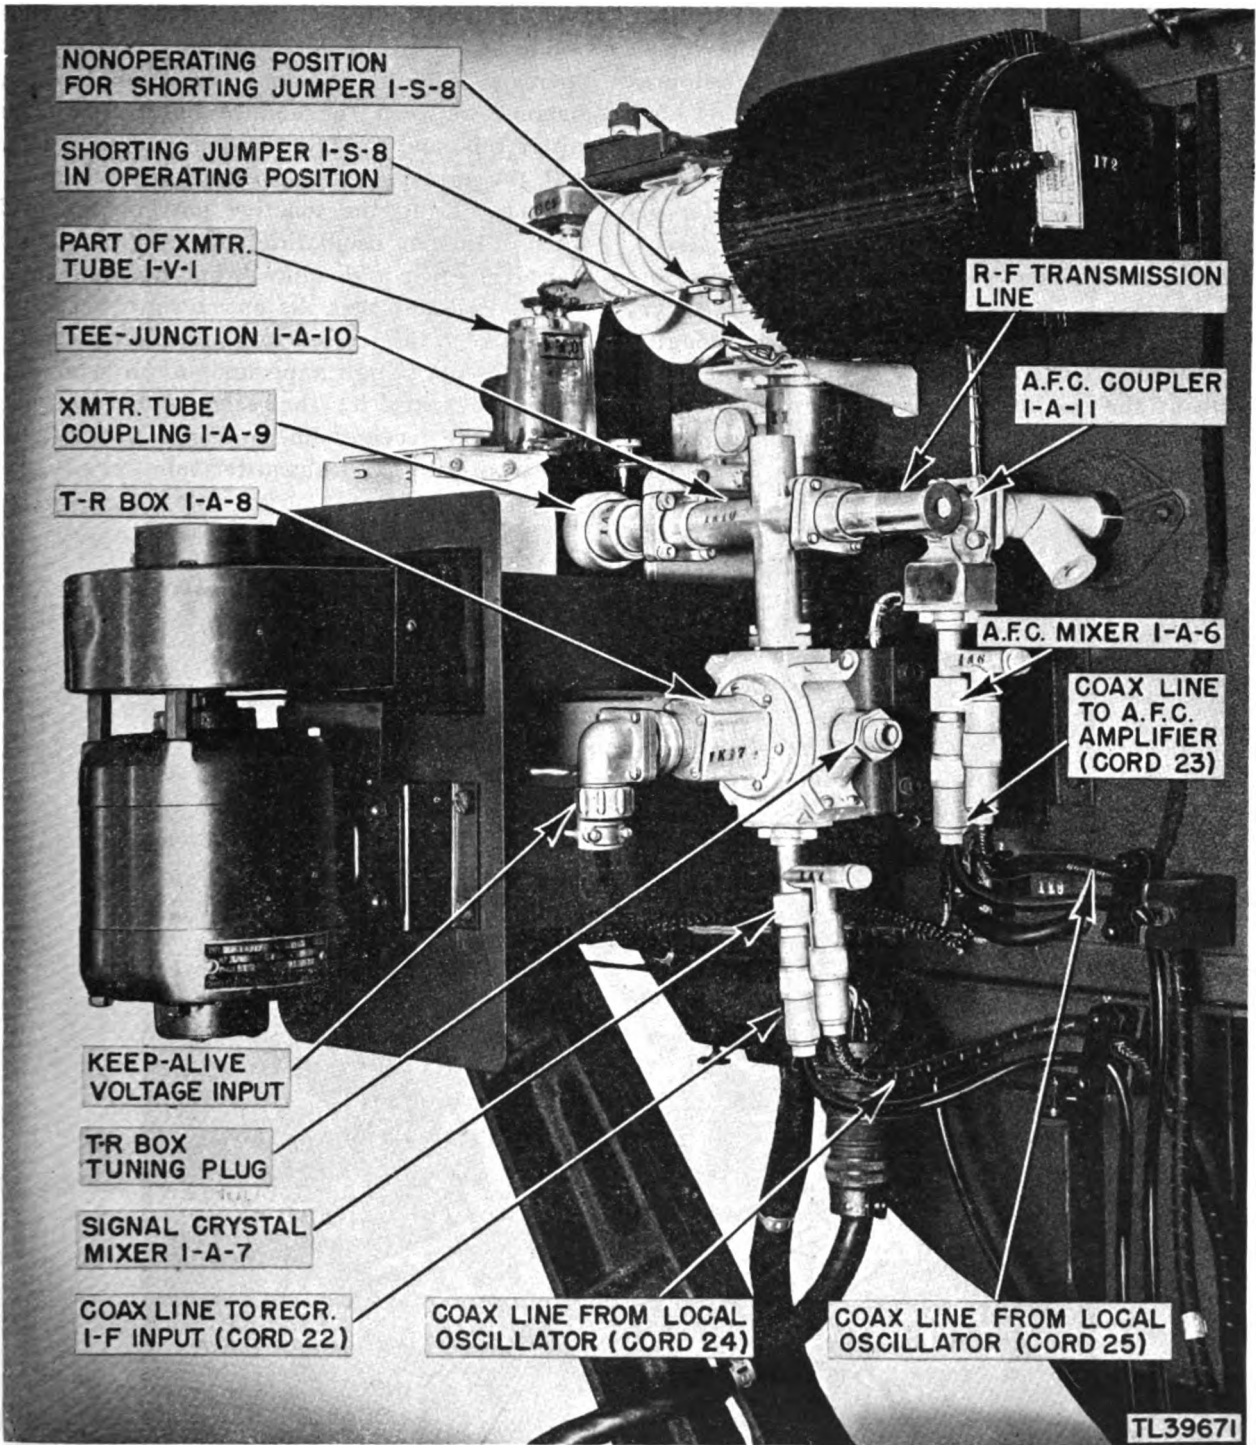

Figure 49. Radio Frequency Unit BC-1224-A, cover removed.
The various parts of the r-f system are located in Radio Frequency Unit BC-1224-A and an Antenna AN-134-A, as shown in figures 47 and 48. The transmitter tube is mounted as shown in figure 49 at the left side of the r-f unit. Joined directly to the output of the transmitter tube is the transmitter tube coupling. Connected to the coupling is a tee-junction from which a branch line goes to the T-R box.
*a. T-R Box.* The T-R box is in one of the branch lines to the receiver (fig. 49). It is located close to the transmitter tube coupling, and receives its input connection from the tee-junction.
*b. AUTOMATIC FREQUENCY CONTROL COUPLER.* The A.F.C. coupler is coupled into the r-f transmission line at the point where the line changes direction to go through the reflector to the antenna dipole (fig. 49). The output of the coupler goes to the A.F.C. crystal mixer which also receives the output of the local oscillator. The A.F.C. crystal mixer is a part of the receiver system and is described in section V.
The T-R box serves as a high-speed electronic valve or switch which permits the passage to the receiver of all of the energy of any received echo, but prevents the passage to the receiver of the high energy of the transmitted pulse. The T-R box is located in the branch of the r-f line that leads to the receiver at a point only a short distance from the tee-junction (fig. 49).
the T-R box is through the short section of r-f line leading to the tee-junction. This may be seen in figure 49. The end of this line which connects to the T-R box terminates in a coupling loop, made by joining the inner and outer conductors of the line by a copper loop. This input coupling loop is inserted into the T-R cavity at the factory, and tightly secured in place by screws which pass through a flange on the end of the section of r-f line. The loop is part of the T-section and is not adjustable. The output of the T-R box is fed to the signal crystal mixer through a second coupling loop, similar to the input coupling loop, but inserted into the T-R cavity at the diametrically opposite point and secured in place by means of screws and a flange.
b. A.F.C. CRYSTAL MIXER. The automatic frequency control (A.F.C.) crystal is located in the radio-frequency unit (fig. 49). The input to the A.F.C. crystal mixer is the output of the local oscillator and the output of the A.F.C. coupler. These two signals are heterodyned in the crystal, and the output is a signal whose frequency is the difference between the two input signals. This output is fed to the A.F.C. circuit.
d. **SIGNAL CRYSTAL MIXER.** The signal crystal mixer is located in the radio-frequency unit (fig. 49). The input to the signal crystal mixer is the output of the local oscillator and the output of the T-R box. As explained in section IV, the output of the T-R box consists of the received echo signals. These voltages are mixed in the crystal, and the output is the intermediate frequency which is 30 mc.